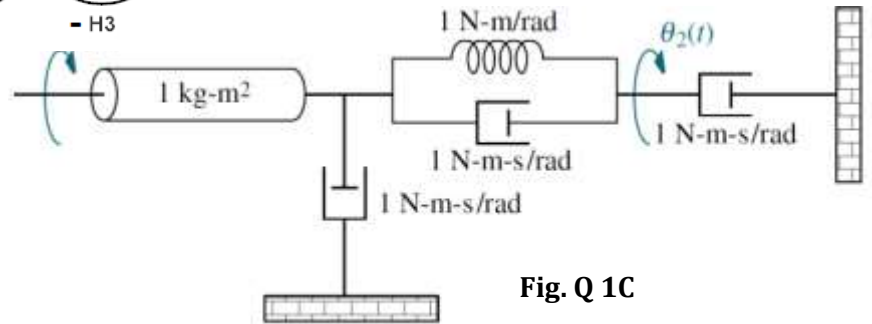

Fig. Q 1C
1C. Draw the equivalent mechanical network and derive the transfer function $G(s) = \theta_2(s)/T(s)$, for the system shown in **Fig. Q 1C**. (04)